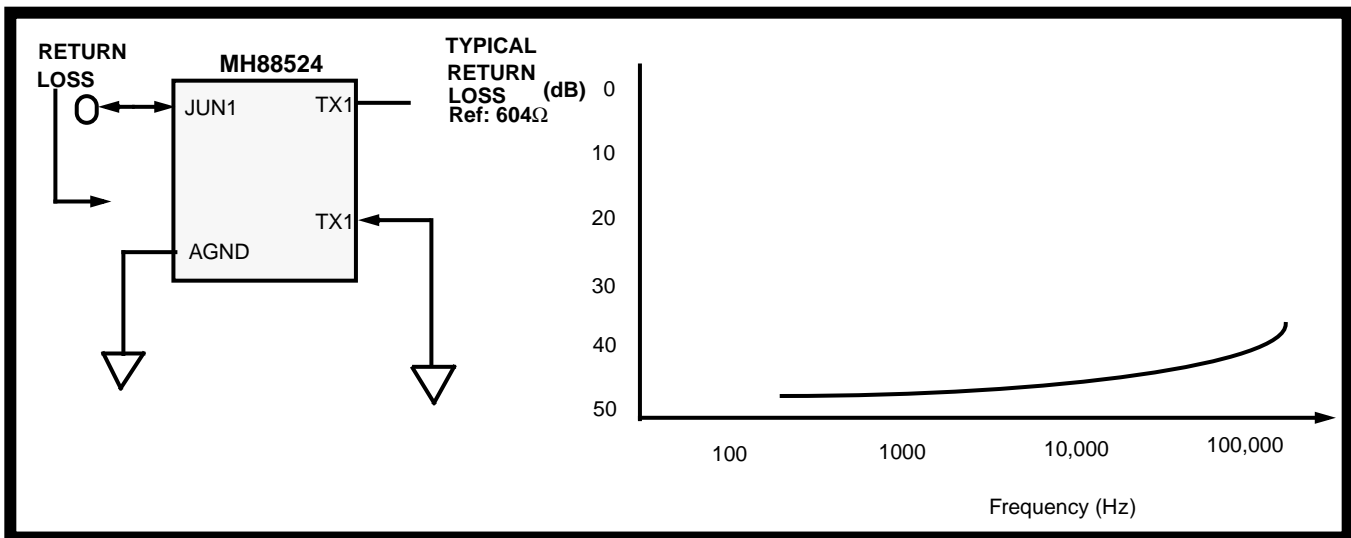

Figure 3 - Return Loss at Junctor vs Frequency with MH88524
① RX is connected to AGND, see Figure 3.